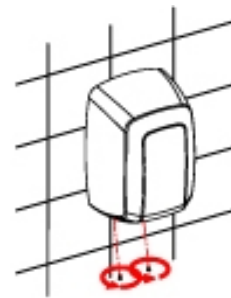

Figure 10.
- Place the screws for fixing the casing to the base, fixing them tightly using the special spanner provided (Figure 10).